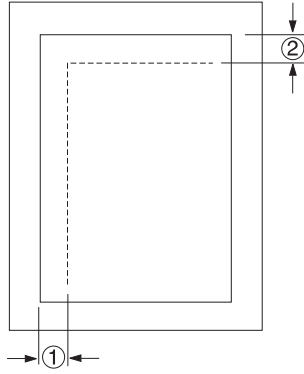

Figure 21. LINEONE Coordinates
The previous section showed you how to define the size of a logical page. The next two examples show you how to position the first line of data inside the logical page, using the LINEONE subcommand. This subcommand position is relative to the logical page origin, as shown in Figure 21 on page 36. The two coordinates, (1) and (2), of the LINEONE parameter define the starting point for the first line of text.